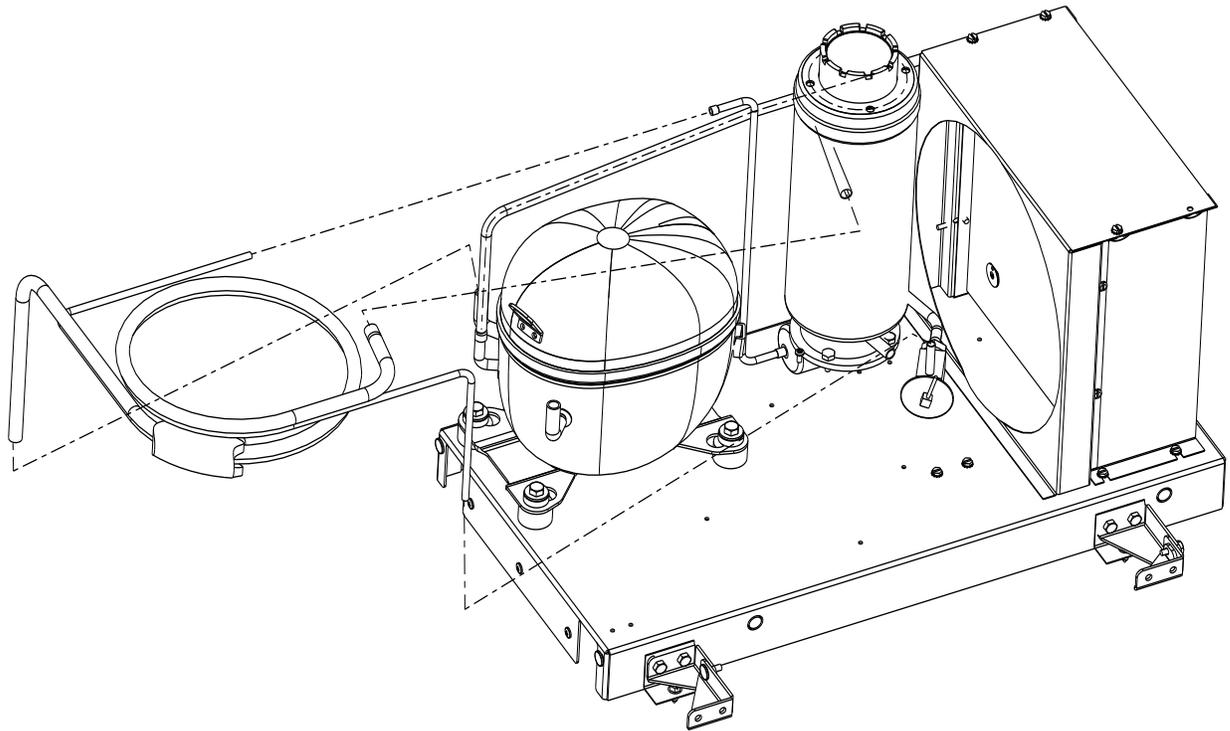

Figure 6. Connection of the Suction HX assembly
8. Connect the Suction HX assembly as shown in Figure 6.